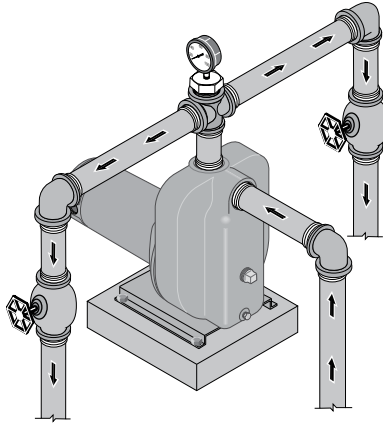

Figure 3 - Multiple Discharge
This pump is designed for a pond, cistern or well points. Pump discharge can be divided to supply two (2) or more sprinkler systems. A suggested multiple discharge to service is shown in Figure 3.